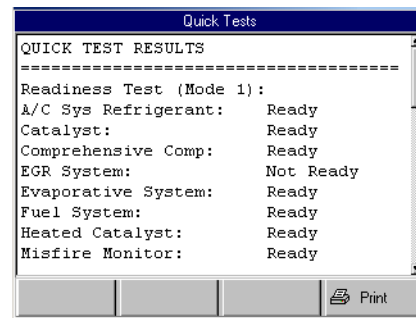

Figure 3.13: Quick Test Results Screen
- If the "Performing Quick Tests" message and then the Global OBD II Quick Test results screen appears (Figure 3.13), continue with Step 3: View the OBD II Quick Test Results on page 18.